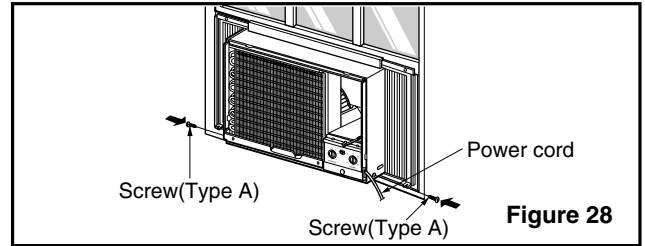

Figure 28
10. Slide the unit into the cabinet.(See Fig. 28)